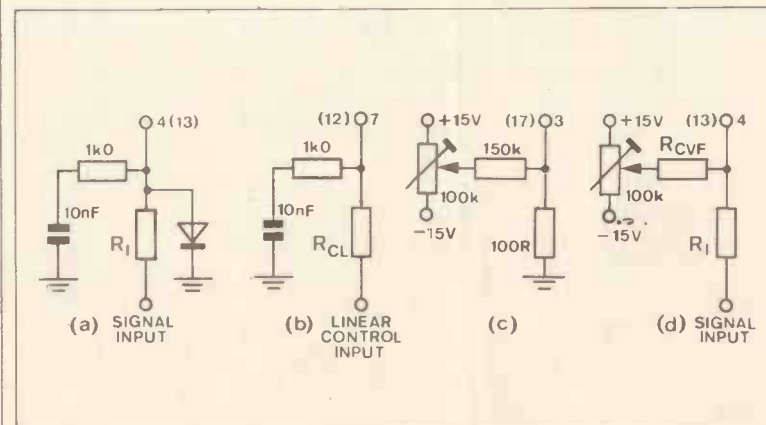

Figure 6. Compensation and trimming of the CEM 3330.
Compensation components for the CEM 3330 are necessary and it may also be desirable, depending on application or the compromises made in design to achieve certain objectives, to provide trimmers to improve distortion and control voltage feedthrough. A summary of these is shown in Figure 6. 6a illustrates compensation for the signal input and the diode (IN4148, etc) is to prevent latch-up. With these component values then pins 9(11) must also have 150pF capacitors to ground. Figure 6b shows the compensation components for the linear control inputs. 6c is an arrangement for allowing distortion to be trimmed to a minimum while 6d allows reduction of control voltage feedthrough. Note that for 6d the compensation components shown in 6a must also be added and that the resistor,  $R_{CVF}$ , is calculated from  $15V/I_{idle}$  which for the 7uA example above gives a value of 2M1 and so 1M8 would be satisfactory.